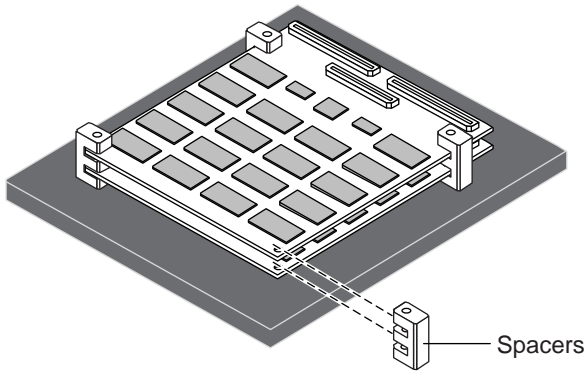

FIGURE A-11 Aligning the Four Plastic Spacers with the Mounting Holes
- 6. Insert the four plastic spacers and align them with the mounting holes on memory Boards B and C (see FIGURE A-11).**